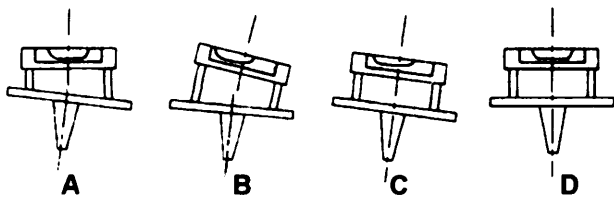

Figure 6-1.—Adjusting the level tube.
1. Setup the instrument and approximately level the bubble over each pair of opposite leveling screws. Then carefully center the bubble over one pair of screws, as shown in view A, figure 6-1.
2. Rotate the instrument 180°. If the bubble remains centered, then the level tube is in proper adjustment. If the bubble does NOT remain centered note the movement of the bubble away from center (view B, fig. 6-1).
3. Bring the bubble half the distance back to the center of the tube by turning the capstan nuts at one end of the tube (view C, fig. 6-1).
4. Relevel with the leveling screws (view D, fig. 6-1) and rotate the instrument again. Repeat Step 3 above if the bubble does not remain at the center of the tube.